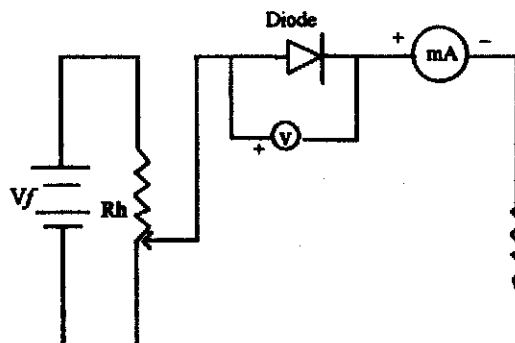
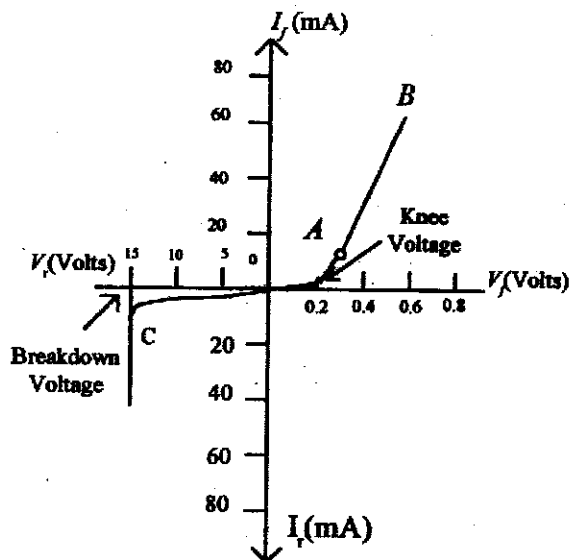

Fig. 34.8: Circuit diagram for forward characteristics of a p-n junction diode.
Fig. 34.9: I - V characteristics of a p-n junction diode
We have seen that the current flow through the p-n junction diode is different in forward and reverse bias. Also, the current will be different for different external bias. A curve representing the variation of current with the applied external bias is called the V-I characteristics of the p-n junction diode. Fig.34.8 shows the circuit arrangement for determining the V-I characteristics of the diode. The characteristics can be studied in two parts – under the forward bias and the reverse bias. When the external bias is zero the potential barrier at the junction does not permit current flow. Therefore, the circuit current is zero as indicated by point O in the characteristic curves of Fig.34.9.
(i) **Forward Bias:** Forward bias can be applied to the diode as shown in Fig.34.8. The diode is connected to a d.c. battery (V_f) through a rheostat (R_p). The rheostat helps in varying the voltage applied across the diode. The resistance R is included in the circuit so as to limit the current through the diode. Voltmeter (V) and milliammeter (mA) measure the voltage and current respectively.
Let us now increase the voltage in small steps of about 0.1 V and record the corresponding values of diode current. If a graph is plotted with voltage across the diode along the horizontal axis and diode current along the vertical axis, a curve OAB, shown in Fig.34.9, will be obtained. This is the *forward characteristic* curve of the diode.
ii) **Reverse Bias:** For the reverse bias to be applied to the diode, the circuit connection will remain the same as in Fig.34.8 except that the diode terminals (i.e. the anode and the cathode) are to be interchanged. Moreover, the milliammeter will have to be changed by a microammeter. As already discussed in Section 34.4(b), the majority carriers are not able to cross the junction due to the increased barrier potential. So, practically no current flows through the circuit. However, in practice, a very small current (of the order of μA) flows in the circuit. It is due to the minority carriers and is called leakage current or reverse saturation current (I_r). It may be recalled that there are a few free electrons in p-type material and a few holes in n-type material. To these minority carriers, the applied reverse bias appears as forward bias. Therefore, a very small reverse current flows in the reverse direction (as shown by the curve OC in the negative voltage region of Fig.34.9. This small current can generally be regarded as negligible over the working range of voltages.